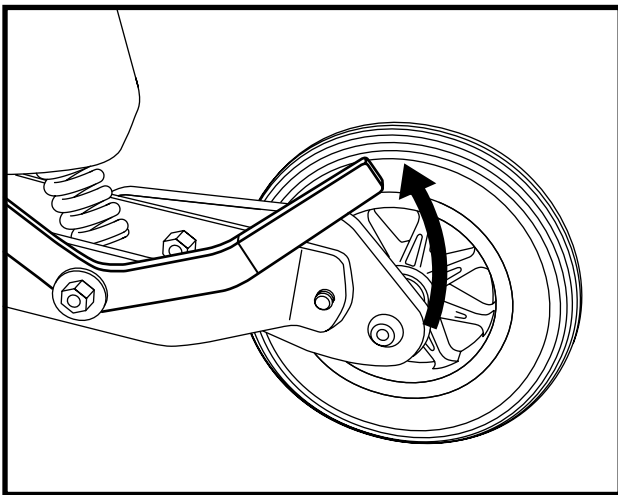

Figure 7. Freewheel Mode (left side shown)
1. Pull up both manual freewheel levers for freewheel mode (drive motor disengaged). See figure 7.